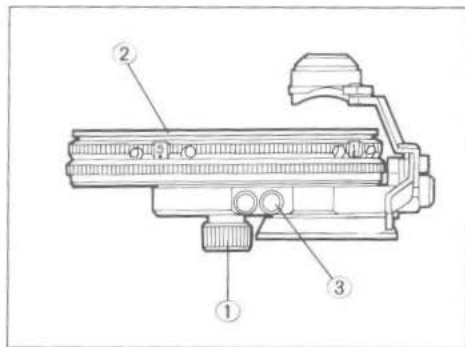

Fig. 2
(1) Loosen the turret cover clamping screw (1) on the bottom of the condenser main unit and remove the turret cover (2). (Fig. 2)
(2) Loosen and remove the two centering wrenches (3) from the bottom side of the condenser main unit. (Fig. 2)